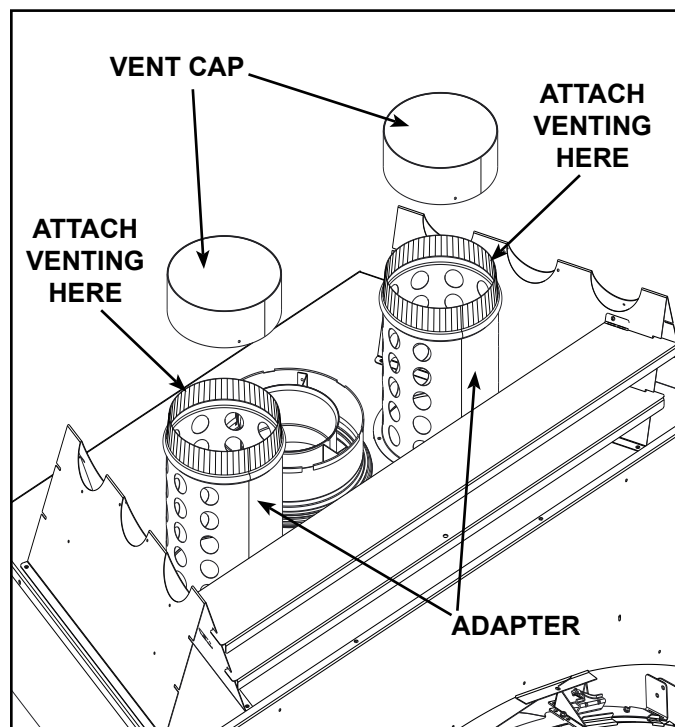

Figure 16 Adapter Prepared for Venting to be Attached
- Remove cap from the Passive Heat adapter and discard the cap. The venting for the Heat-Zone-Gas kit will attach directly on top of the Passive heat adapter. See Figure 16.
- Remove cap from the Passive Heat adapter and discard the cap. The venting for the Heat-Out-Gas kit will attach directly on top of the Passive heat adapter. See Figure 16.